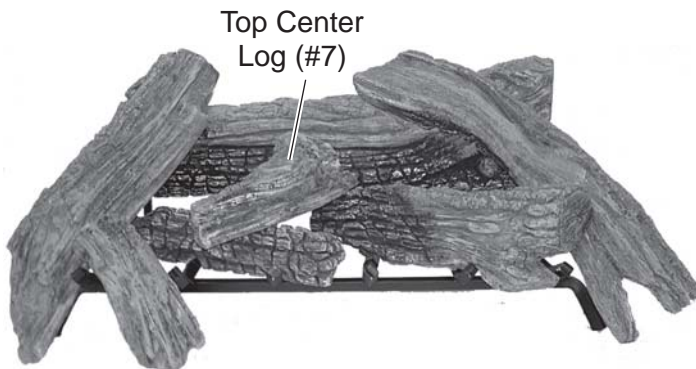

Figure 90 - Resting Center Top Log (#7) Bottom left Log and Back Log
8. Rest Top Center Log #7 on bottom left log #2 and back log #1. *See Figure 90.*